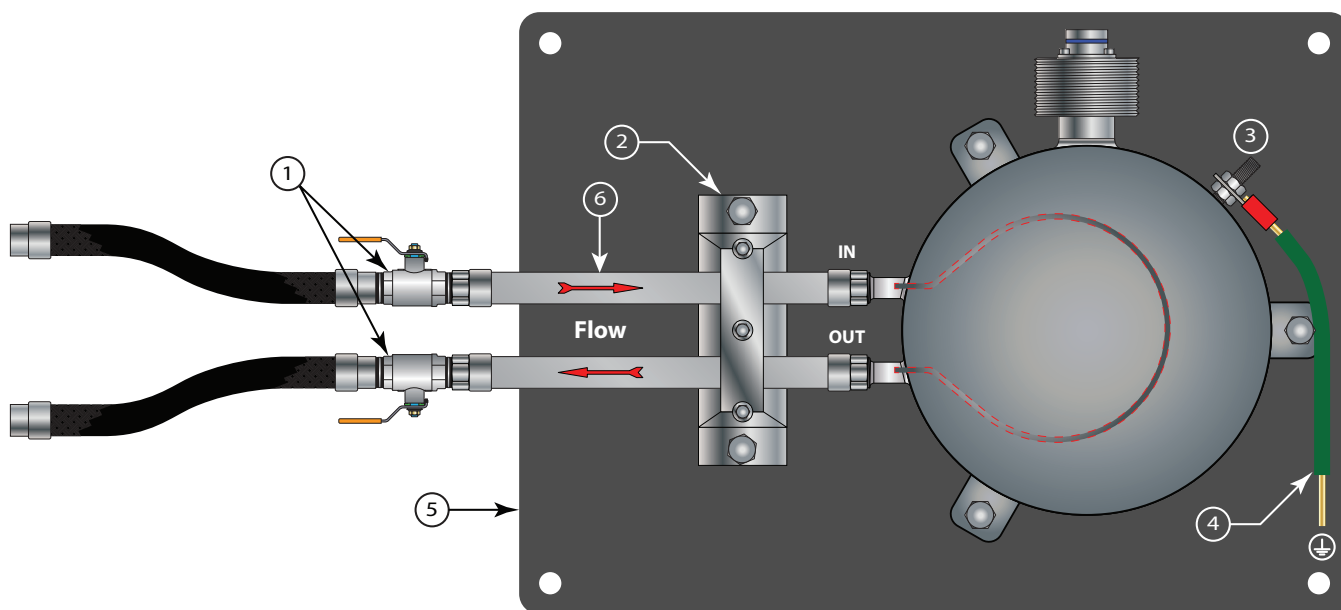
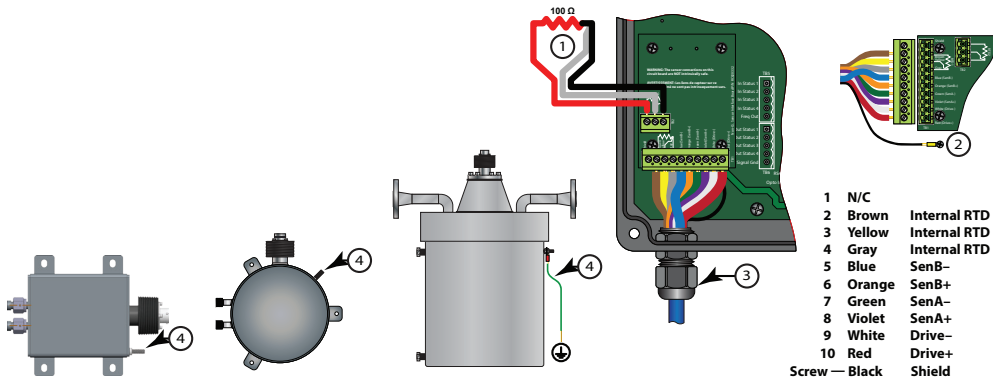

Figure 13: RCS008 mounting
Figure 18: RCTN sensor connections
- 9. Unplug the ten-pin connector on the interface board and attach the sensor cable to the appropriate wire color codes. See *Figure 18*.
- 12. All RCS sensors are equipped with a 1/4 in. threaded ground stud. Connect this stud to a protective (earth) ground with a minimum of a 10 AWG conductor. See *Figure 13 on page 15* and *Figure 18*.